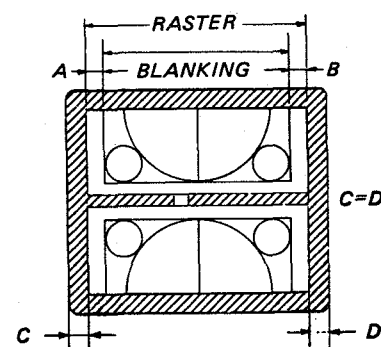

Fig. 23-1
3. Adjust RV1 and RV7 on the DA board so that the raster can all be seen by RV1 and RV7 as shown in Fig. 23-1.
4. Adjust RV26 on the DA board so that the out side raster portions of the picture become equal to at the right and the left sides as shown in Fig. 23-1.